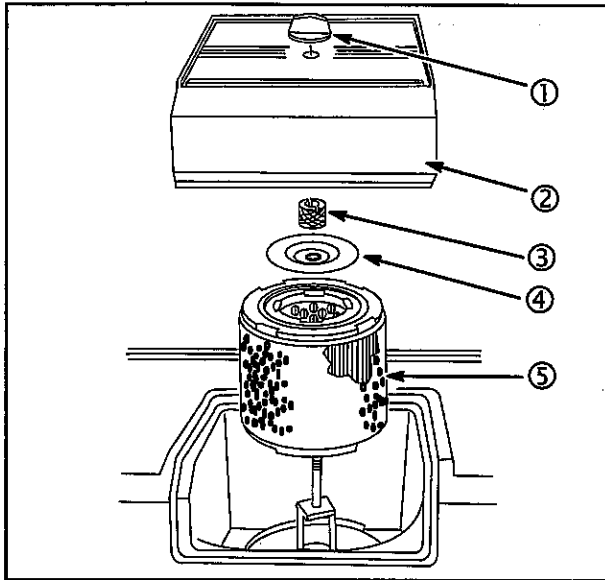

Fig. 1
1. Remove air cleaner knob (1) and cover (2), Fig. 1.
2. Remove air cleaner nut (3), top plate (4) and element (5).